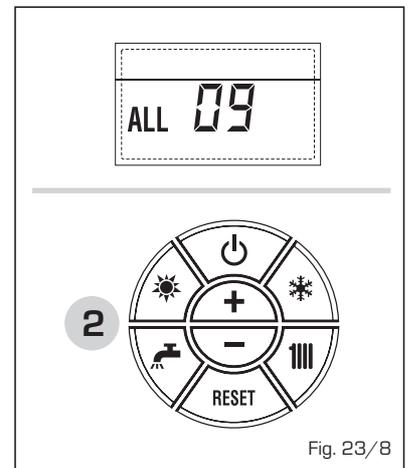

Fig. 23/8
**- ANOMALÍA SONDA AUXILIAR "AL 10" (fig. 23/9)**